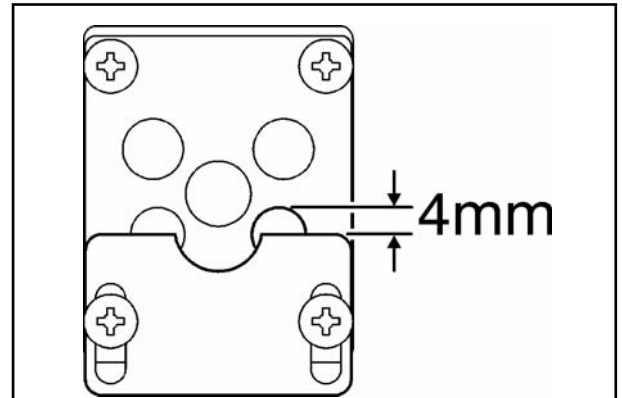

Figure 36. Aeration shutter setting
1. The aeration shutter is factory set and should not require adjustment. If the shutter is not as shown in figure 36 and requires adjustment, loosen the two aeration shutter screws, slide the aeration shutter to the position shown in figure 36 and tighten the fixing screws.